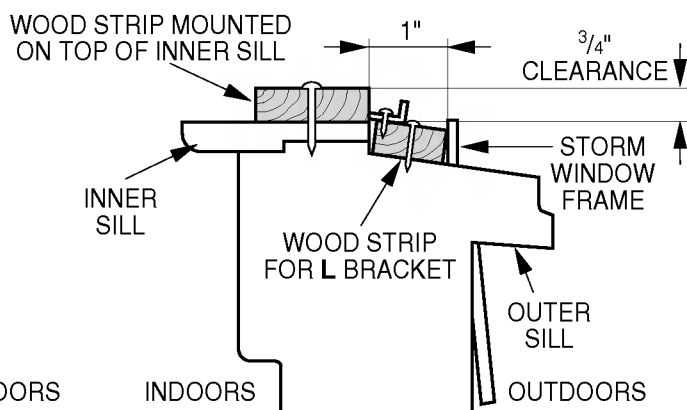

Fig. 5-2
2. If a storm window presents interference, fasten a 2" wide wood strip to the inner window sill across the full width of the sill. The wood strip should be thick enough to raise the height of the window sill so that the unit can be installed without interference by the storm window frame. See Fig. 5-2. The top of the wood strip should be approximately $\frac{3}{4}$ " higher than the storm window frame (STORM WINDOW FRAME) or wood strip (OUTDOORS) to help condensation to drain properly to the outside.
3. Install a second wood strip (approximately 18" long by $1\frac{1}{2}$ " wide and same thickness as first strip) in the center of the outer sill flush against the back off the inner sill. This will raise the L bracket as shown in Fig. 5-2.